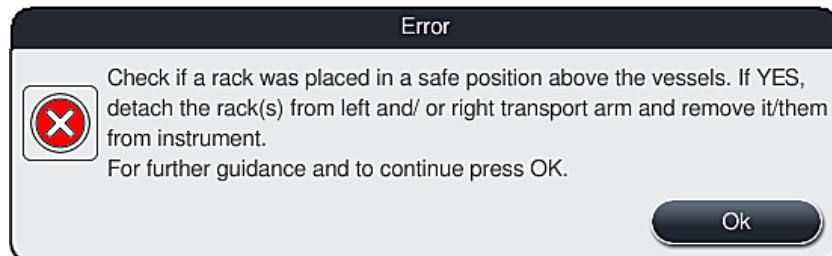
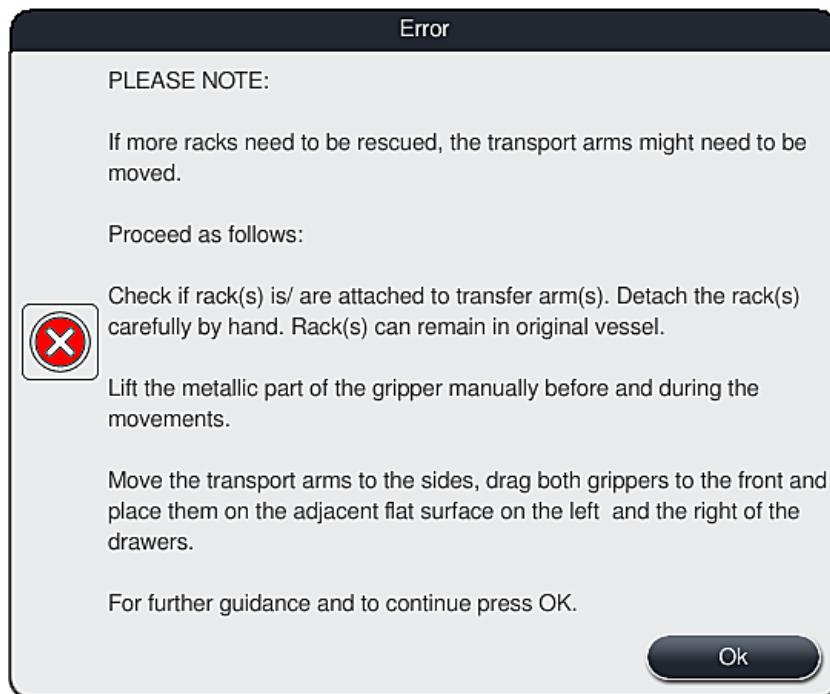

Fig. 107
Fig. 108
2. Subsequently, this message prompts the user to check (→ "Fig. 107") whether or not the instrument has placed one or two racks in a secure position between two reagent vessels (→ "Fig. 103").
3. After pressing the "OK" button (→ "Fig. 107"), another messages appears (→ "Fig. 108") that provides the user with instructions regarding the correct procedure for removing the respective racks.